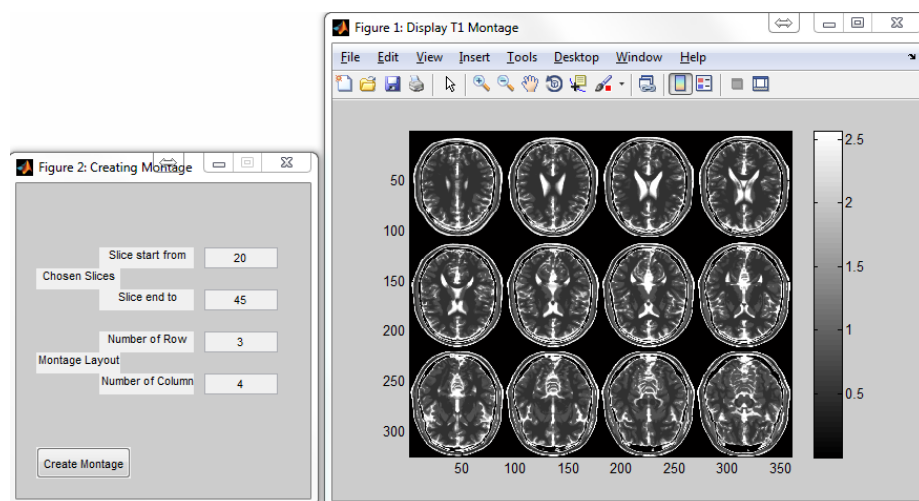

Figure 6.5: Montage Image. An example for creating a 3-by-4 montage image using multiple image slices starting from slice 20
-  : Create a montage image for multiple slices (Figure 6.5)